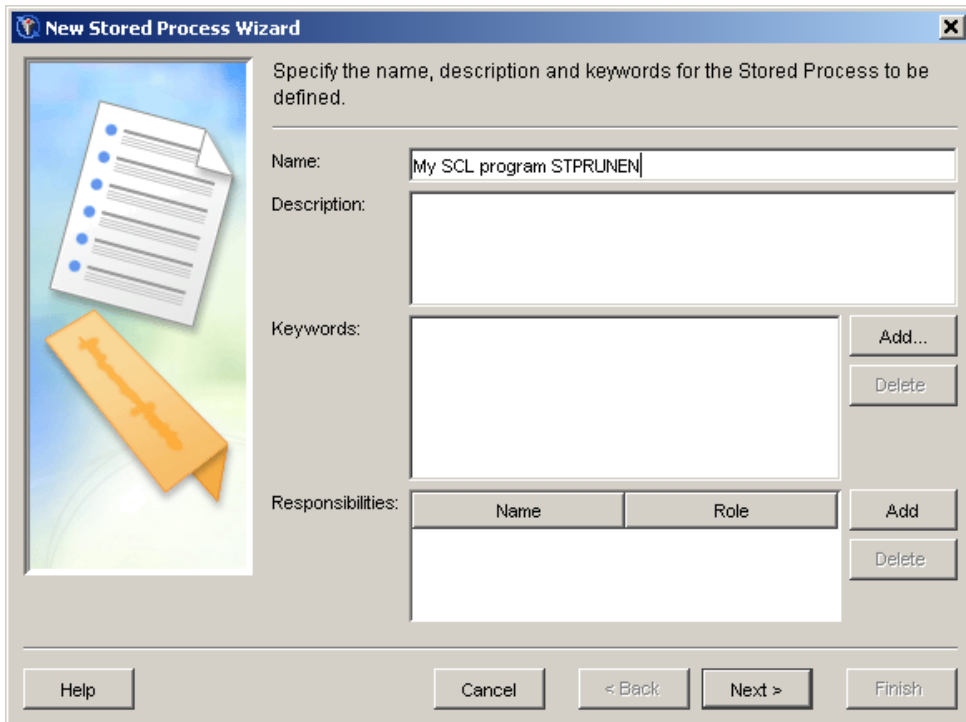

Figure 7. Name the stored process
- a. Enter the following information in the first screen of the wizard (see figure 7) and click NEXT.